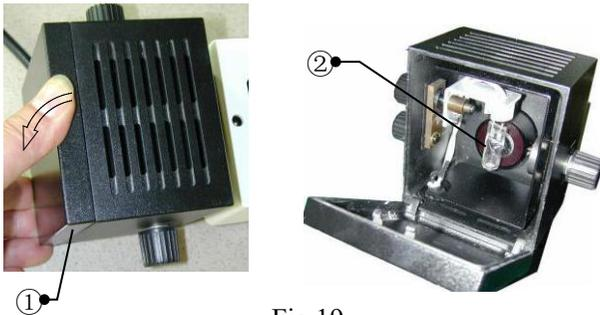

Fig.19
The back cover ① of reflected illumination lamp house can be turned out. Turn out the back cover of lamp house ①. Pull the old light bulb ③ straight out of the socket. Always use a clean cloth or lens tissue to prevent grease or oil getting on the glass of the new light bulb. Insert the light bulb pins straight into the socket. Close the back cover again. Using the light bulb centering knobs to adjust. See fig.19.